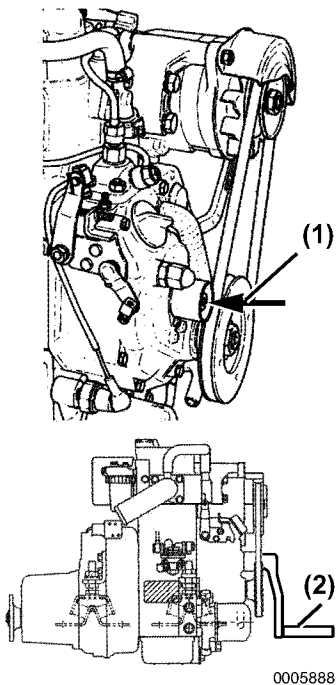

Figure 3
3. Put the remote control shift lever in the NEUTRAL position (**Figure 3, (1)**).
6. Slide the starter handle (**Figure 3, (2)**) on the starter shaft (**Figure 3, (1)**), align the groove and pin, and turn by hand.